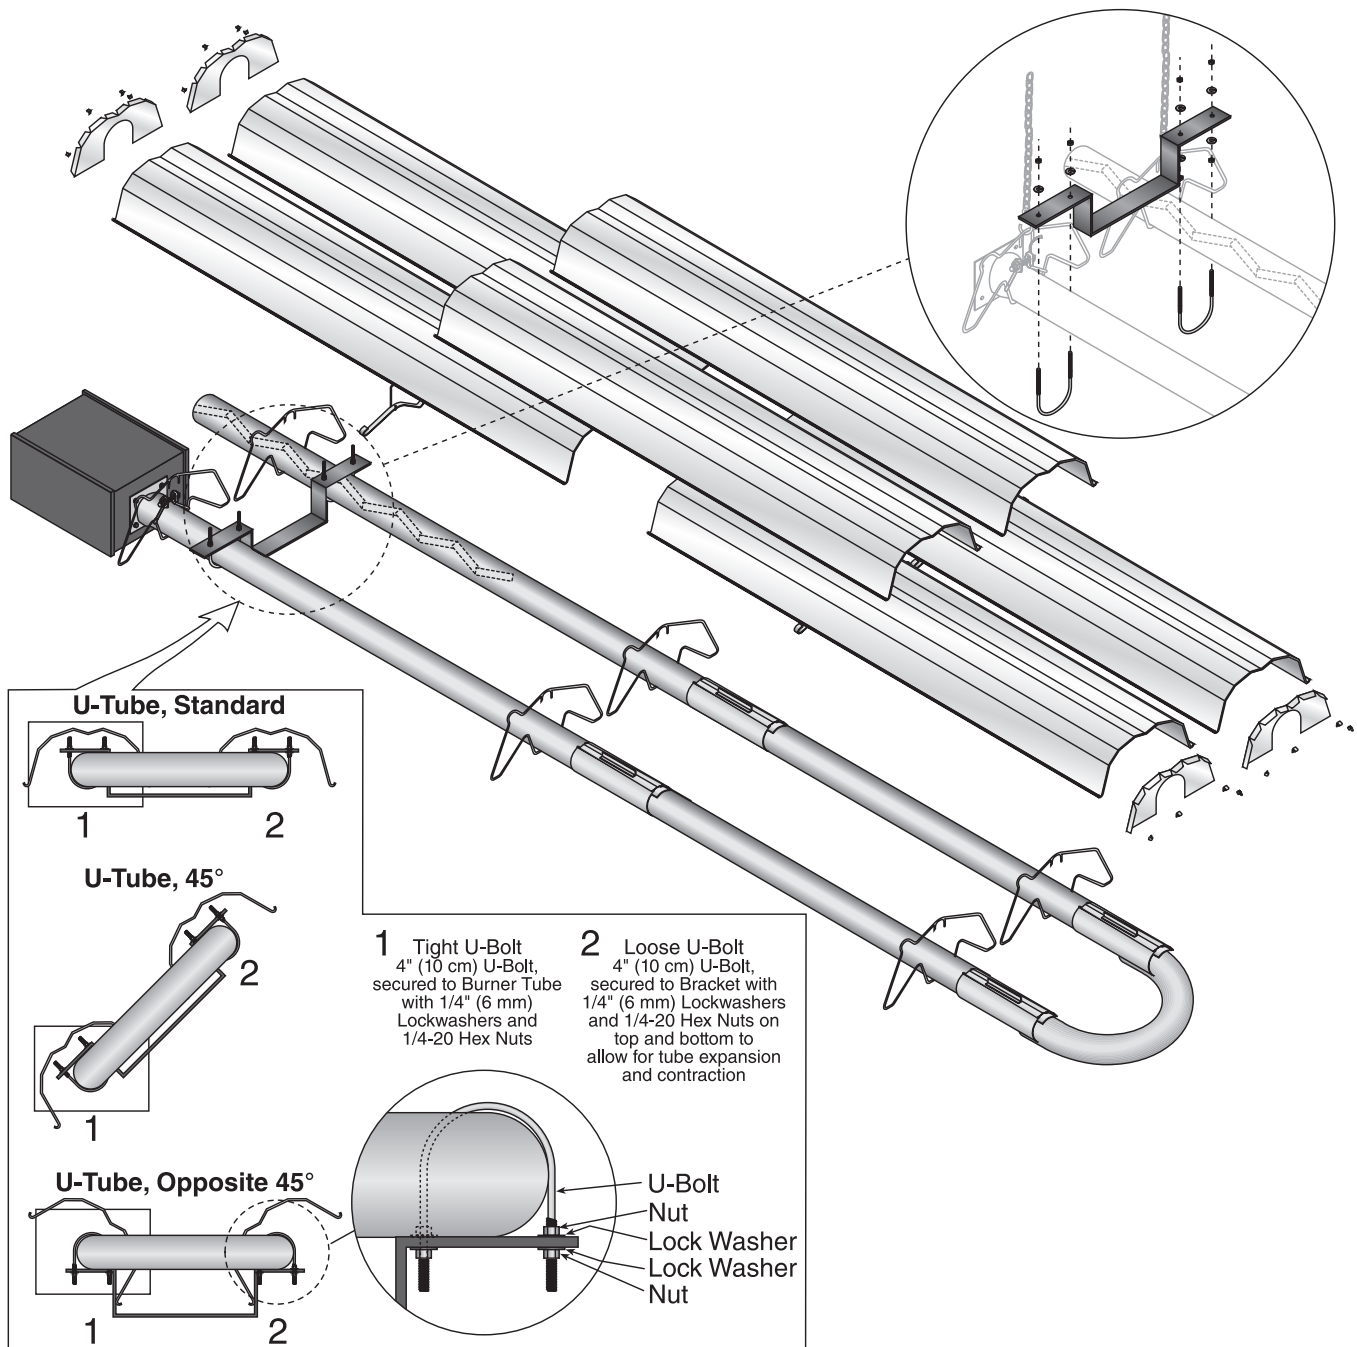

Figure 11. Installation of U-Tube Support Bracket
4. For U-tube installations, install U-tube support bracket as shown in **Figure 11**.